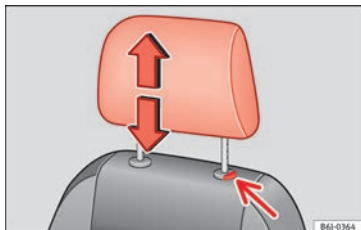

Fig. 141 Adjusting and removing the head restraints.
- Press the button »» **Fig. 141** (arrow).